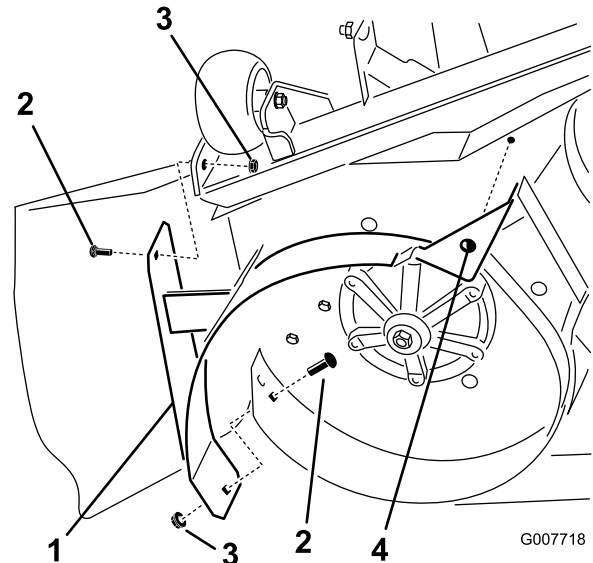

Figure 21
1. Remove the three locknuts securing the right hand mulch baffle to the mower deck (Figure 21). Two can be found on the underside of the mower deck at the discharge opening and the third is on the top of the deck.